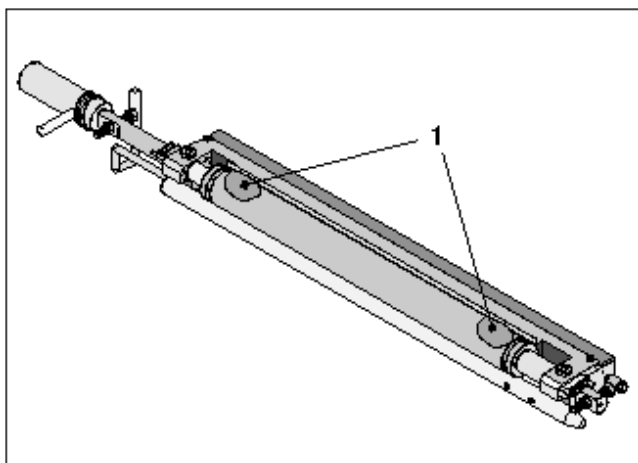

Fig. 21 Inking up the washup roller
2. Partially ink up the washup roller (Fig. 21 /1).